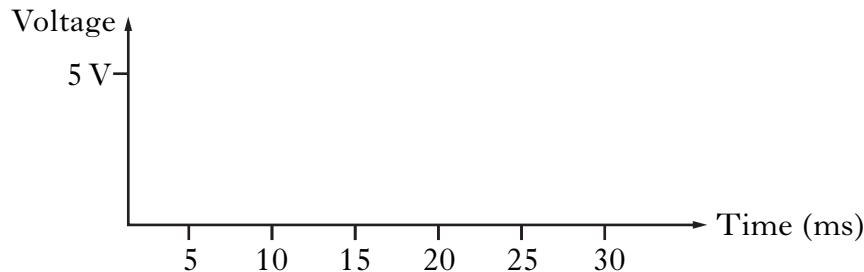

Figure Q10(c)
- (d) (i) Complete Figure Q10(c), with reference to the flowchart, to show how PWM is used to control the speed of this motor.
- (ii) Label the **mark** and **space** on Figure Q10(c).